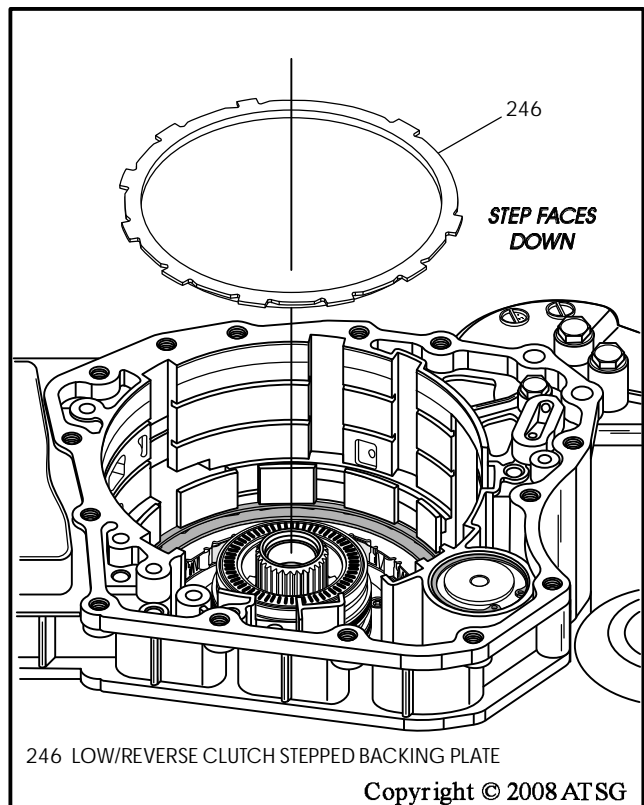

Figure 188
4. Install the low/reverse clutch stepped backing plate, as shown in Figure 188.
**Note:** *Flat side faces up, step faces down, as shown in Figure 188.*